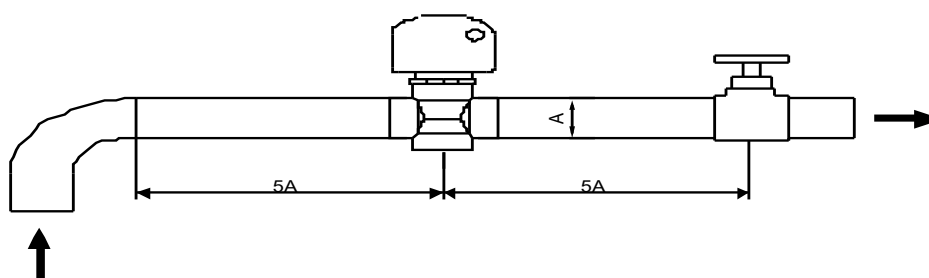

Figure 9
- Do not handle, move or lift the unit by holding the water inlet and outlet pipe: use only the holes on the beam of the base (see Figure 9)
- The flow switch must be installed on a straight pipeline, and there must be more than five times the length of the pipe diameter on either side of the flow switch (see Figure 9 below). The direction of fluid must follow the arrow on the controller. The terminal block should be installed in a position that is easy to operate.